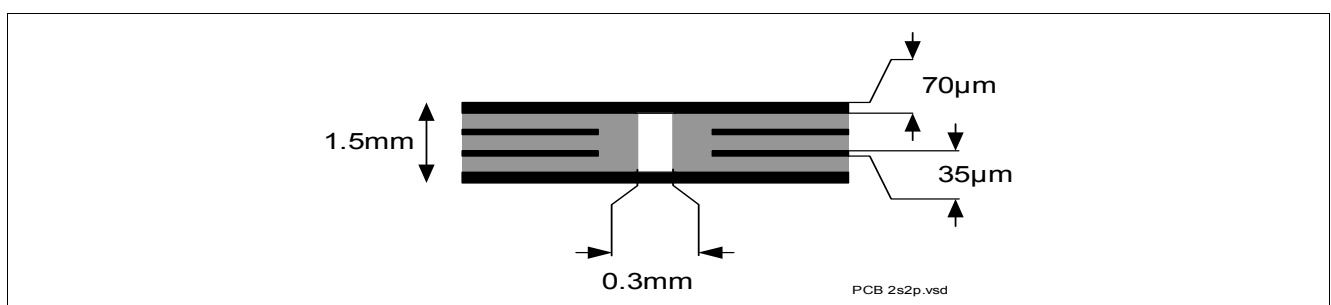
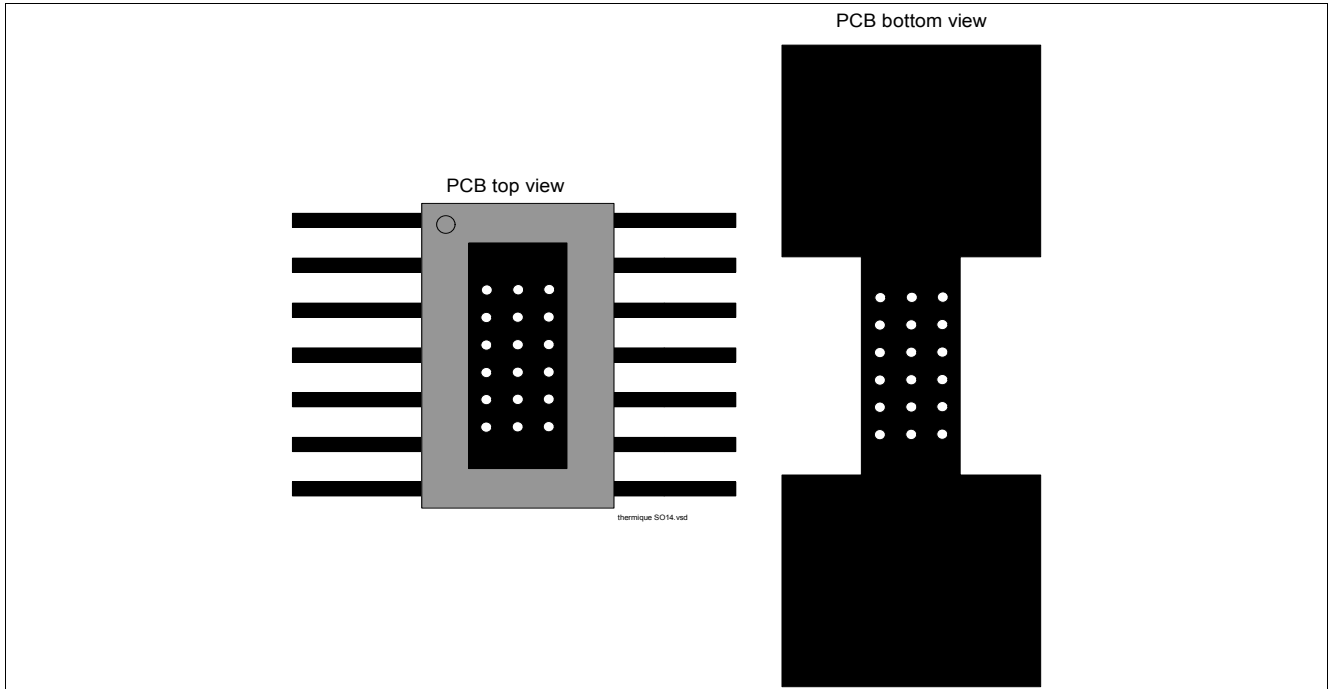

Figure 4 2s2p PCB Cross Section
Figure 5 PC Board Top and Bottom View for Thermal Simulation with 600 mm² Cooling Area
2) Specified R_{thja} value is according to JEDEC JESD51-2,-5,-7 at natural convection on FR4 2s2p board; The product (chip + package) was simulated on a 76.4 x 114.3 x 1.5 mm board with 2 inner copper layers (2 x 70 μm Cu, 2 x 35 μm Cu). Where applicable, a thermal via array under the exposed pad contacts the first inner copper layer. Please refer to Figure 4 and Figure 5.